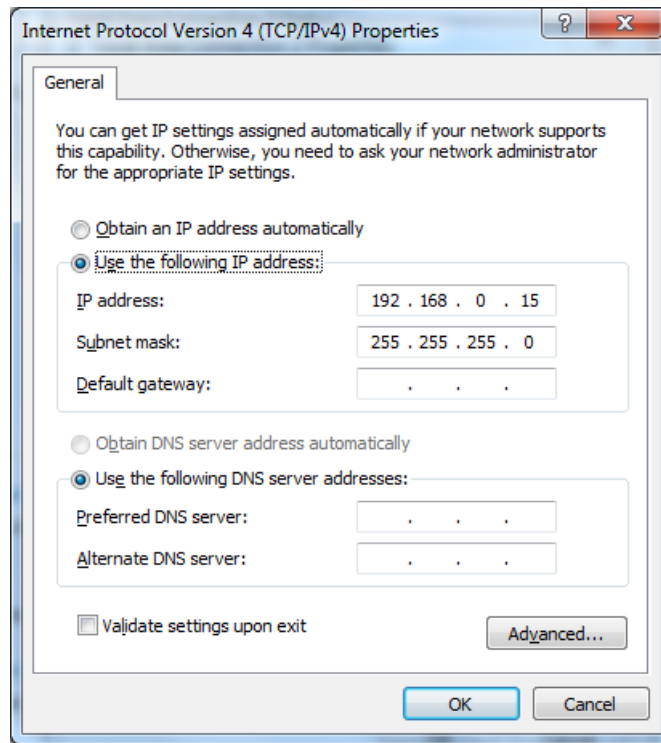

Figure 21: Laptop Internet Protocol Settings
2. Change your Local Area Connection TCP/IPv4 settings to match the receiver (Figure 21).